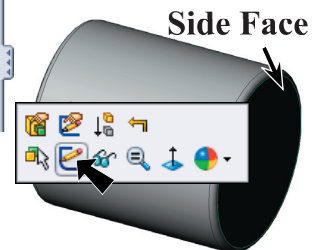

Fig. 7
- Step 1. Click the **side face** and click **Sketch**  on the Content menu, **Fig. 7**.